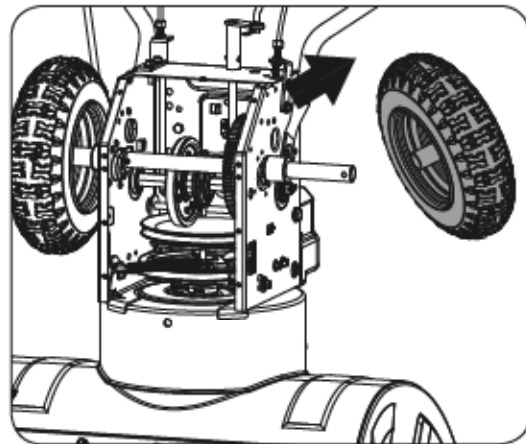

Figure 18a
4. Remove the right-hand wheel by removing the axle lock pin. (See Figure 18a)